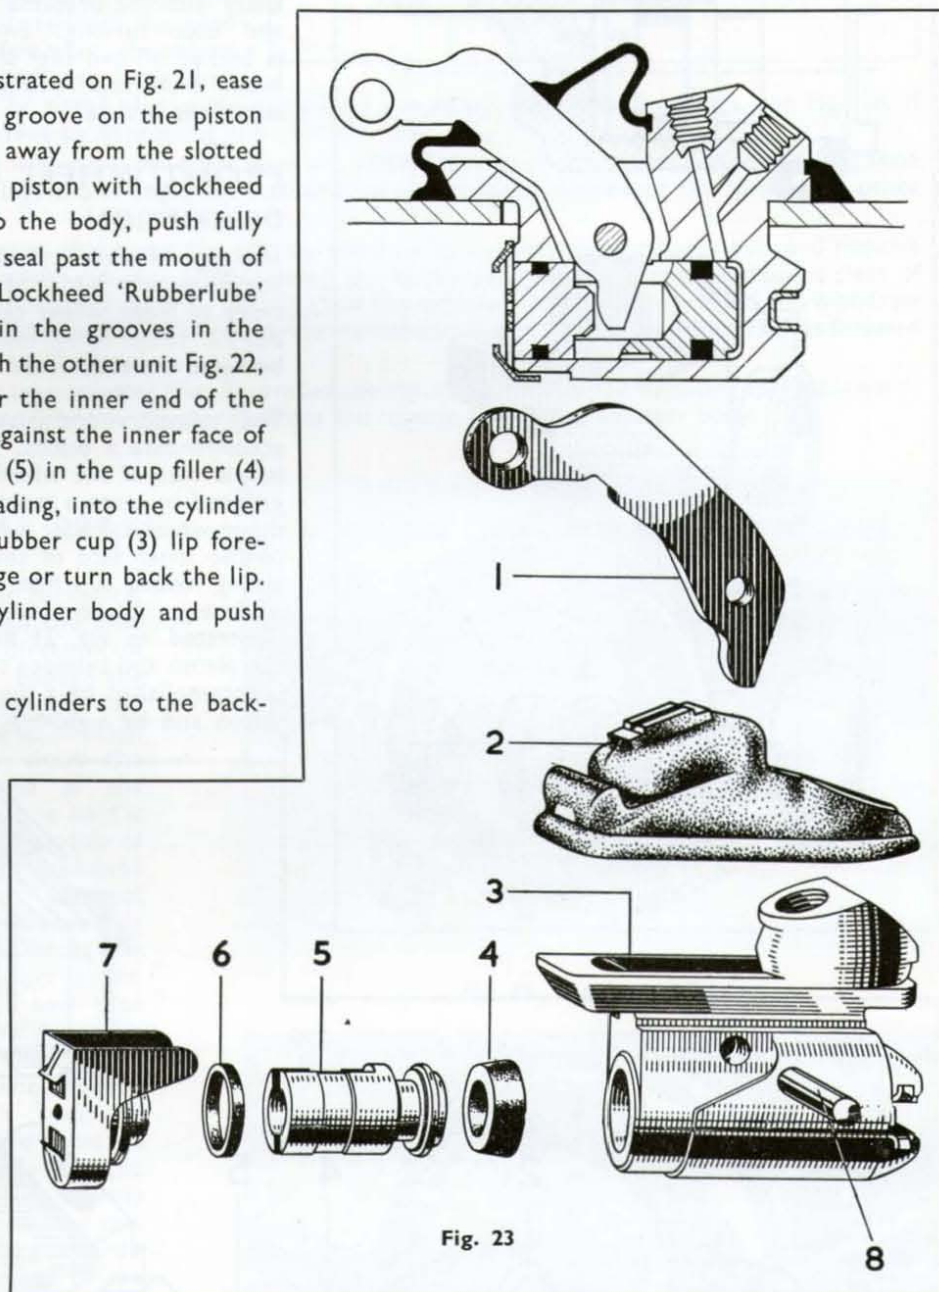

Fig. 23
The type of cylinder used varies according to the vehicle to which it is fitted. In the main there are two types of rear wheel cylinder as illustrated in Figs. 23 and 24, these being mounted and allowed to slide freely in a slot in the backplate.
The cylinders comprise a body which is bored to accommodate two pistons Ref. 5 and 7, Fig. 23, Ref. 7 and 9 Fig. 24. In the case of the wheel cylinder Fig. 23 the pistons are grooved, Ref. 7 to carry a rectangular sectioned rubber seal (6) and Ref. 5 a tapered seal (4). In the case of the other wheel cylinder a rubber cup (6) is fitted adjacent to the inner face of the hydraulic piston which is backed by a spring loaded cup filler (5) and the outer piston (9) is grooved to carry a rectangular sectioned seal (8). The dust covers are welded to the pistons and cannot be removed.
To dismantle the wheel cylinders illustrated in Fig. 23 and 24, withdraw the outer piston (7 or 9) tap out the pin (8 or 10) and remove the lever (1). Apply a low air pressure at the fluid connection to blow out the inner piston and in the case of the unit shown in Fig. 24 the rubber cup (6) and the spring loaded cup filler (4 and 5). Remove the rubber seals (4, 6 and 8) from the pistons (Ref. 5 and 7, Fig. 23, Ref. 8, Fig. 24) and ensure during the removal of the taper seal (4) from the piston (5) that the base of the piston groove is not damaged, or fluid leakage past the seat and the inside diameter of the seal will ensue.
In the case of the unit illustrated in Fig. 23 ease the rectangular sectioned seal (6) into the groove in the piston (7) and the tapered seal (4) into the groove in the piston (5) so that the large end is facing away from the slotted end of the piston. Insert the piston (5) into the cylinder bore, ensuring that the slot is adjacent to the slot in the body and that the seal is not damaged when passing the handbrake lever slot. Place the lever (1) in position within the body and fit the pivot pin (8). Smear the large diameter of the outer piston (7) with Lockheed 'Rubberlube', and insert the piston in the cylinder bore, turning the seal onto its side so that the edge which tends to protrude enters the bore last, ensuring that the lever locates within the slot.